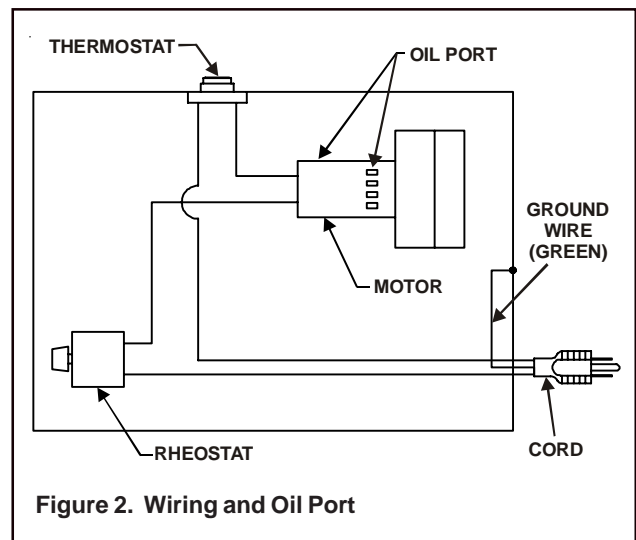

Figure 2. Wiring and Oil Port
3. This unit is equipped with a three (3) wire ground cord for protection. **Never** remove the ground lead. Be sure the electrical plug provided is plugged into a proper three (3) prong outlet. If an extension cord is used, be sure it has the proper ground and is of the same or greater value than the cord provided on the Grate Heater. If the extension cord is too light the fan may fluctuate its speed and operate improperly.
5. Under normal use the blower on the Grate Heater should be oiled every 4,000 hours of operation. There is an opening on the top of the motor where the lubricant can be applied (see Figure 2).